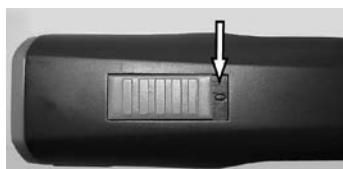

Fig. 4 Switch in OFF-position ("0")
1. Test the contacts of the clipper (1) and the battery (2) for foreign particles and contamination.
2. Assure, that the switch lever of the clipper is in OFF-position ("0") (fig. 4).
3. Insert the battery (2) in the clipper (3), until the battery interlock (1) is engaged on both sides.
4. Put the clipper with the inserted battery (1) or spare battery (2) from above without force into the provided charging cavity of the charging station.
6. Battery is charging. During the charging time the control light is illuminating red (3). As soon as the battery has been charged to a min. 90%, the indicator lamp will change to green and the charging station switch to "trickle charging".
7. Hold the charger firmly with one hand and pull the clipper (1) or the battery (2) out with the other.
1. Move the switch to position "0" (fig. 4).
2. Push the battery interlock (2) on both sides inward and pull the battery (1) out of the clipper.